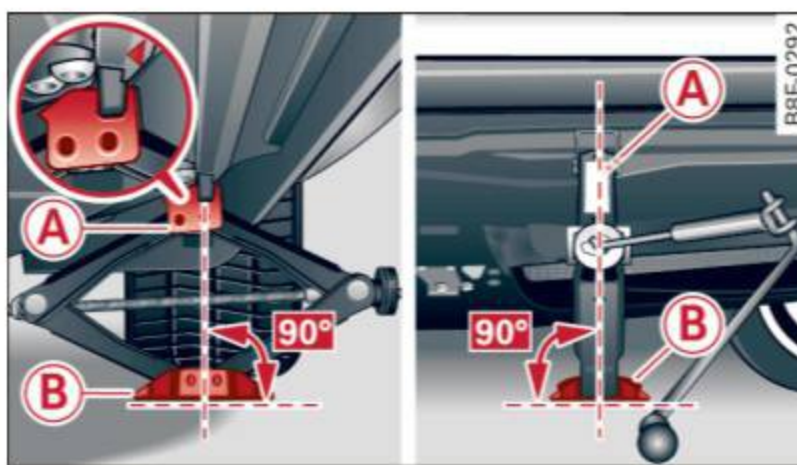

Fig. 204 Sill: positioning the vehicle jack
- ▶ Turn the **vehicle jack** located under the lifting point on the sill to raise the jack until the jaw ⇒ *fig. 204* (A) covers the **notch** on the vehicle ⇒ ⚠ ⇒ ⚠.
- ▶ Align the vehicle jack so the jaw (A) covers the notch and the base plate (B) is flat on the floor. The base plate (B) must be *vertical* under the lifting point (A).